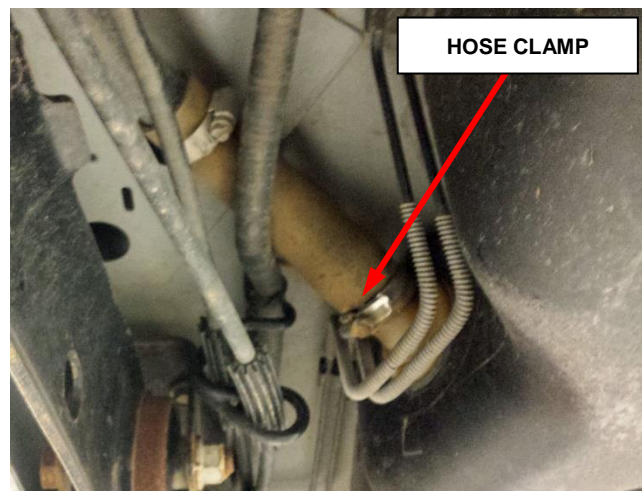

Figure 3 – Description
35. Loosen the fuel fill hose clamp. It may be necessary to lower the tank slightly later in the procedure in order to disconnect the fuel fill hose from fuel tank (Figure 3).
43. Partly lower the fuel tank in order to access and disconnect the vapor tube quick connector (Figure 10) and fuel fill hose (Figure 3) from the fuel tank.